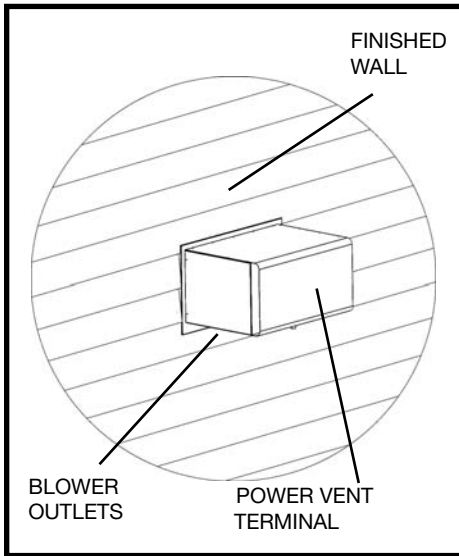

Figure 4: Mounted power vent.
4. Attach the terminal to the outside wall. Ensure that the terminal is the right way up and that only the outer flanges that are used to secure the terminal to the building are covered by the exterior wall or siding (Figure 4). Note: No other part of the terminal can be recessed into the exterior wall or siding.